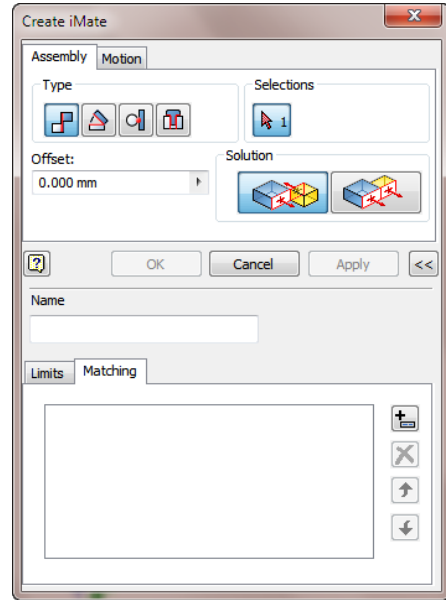

Figure 17-42 The **Create iMate** dialog box
4. Enter **insert_1** in the **Name** edit box and then choose the **Matching** tab; the Match List area is displayed, see Figure 17-42.
6. Enter **insert_2** in the edit box displayed, refer to Figure 17-42.
3. Enter **insert_2** in the **Name** edit box. Note that this is the name you entered in the Match List area of the **Create iMate** dialog box while setting the iMate of the shaft, refer to Figure 17-42.